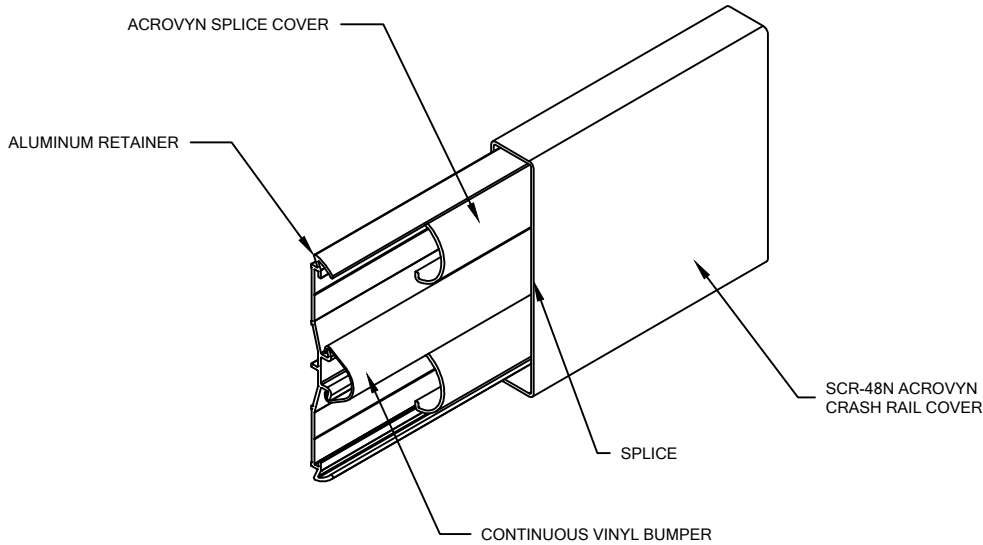

FIGURE 2.
5. ATTACH THE ACROVYN SPLICE COVERS AT ALL SPLICE JOINTS BY SNAPPING THEM INTO PLACE ABOVE AND BELOW THE CONTINUOUS VINYL BUMPER. (SEE FIGURE 2)